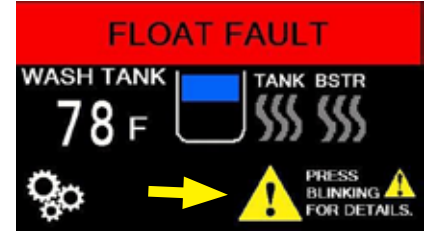

Fig. 101 - Fault screen with blinking icon
1. The floats are devices inside the machine that control filling and heating. If a float encounters a problem, then "FLOAT FAULT" and a blinking fault icon appear, (Fig. 101).